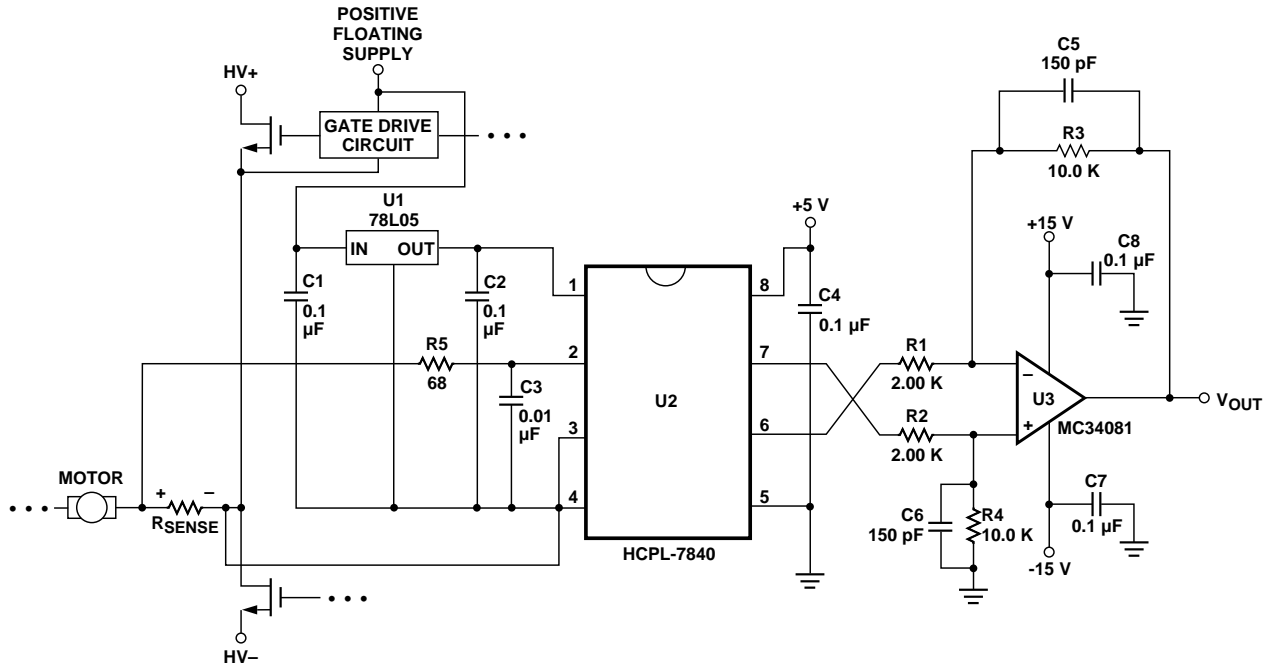

Figure 23. Recommended Application Circuit.
8. CMR (also known as IMR or Isolation Mode Rejection) specifies the minimum rate of rise of a common mode noise signal applied across the isolation boundary at which small output perturbations begin to appear. These output perturbations can occur with both the rising and falling edges of the common mode waveform and may be of either polarity. A CMR failure is defined as a perturbation exceeding 200 mV at the output of the recommended application circuit (Figure 23). See applications section for more information on CMR.
The recommended application circuit is shown in Figure 23. A floating power supply (which in many applications could be the same supply that is used to drive the high-side power transistor) is regulated to 5 V using a simple three-terminal voltage regulator (U1). The voltage from the current sensing resistor, or shunt (R_{sense}), is applied to the input of the HCPL-7840 through an RC anti-aliasing filter (R_5 , C_3). And
As shown in Figure 23, 0.1 μF bypass capacitors (C_2 , C_4) should be located as close as possible to the input and output power supply pins of the HCPL-7840. The bypass capacitors are
The recommended method for connecting the isolation amplifier to the shunt resistor is shown in Figure 23. Pin 2 (V_{IN+}) is connected to the positive terminal of the shunt resistor, while pin 3 (V_{IN-}) is shorted to pin 4 (GND1), with the power-supply return path functioning as the sense line to the negative terminal of the current shunt. This allows a single pair of wires or PC board traces to connect the isolation amplifier circuit to the shunt resistor. In some applications, however, supply currents flowing through the power-supply return path may cause offset or noise problems. In this case, better performance may be obtained by connecting pin 3 to the negative terminal of the shunt resistor separate from the power supply return path. When connected this way, both input pins should be bypassed. Whether two or three wires are used, it is recommended that twisted-pair wire or very close PC board traces be used to connect the current shunt to the isolation amplifier circuit to minimize electromagnetic interference to the sense signal.
The recommended application circuit (Figure 23) includes a post-amplifier circuit that serves three functions: to reference the output signal to the desired level (usually ground), to amplify the signal to appropriate levels, and
To maintain overall circuit bandwidth, the post-amplifier circuit should have a bandwidth at least twice the minimum bandwidth of the isolation amplifier, or about 200 kHz. To obtain a bandwidth of 200 kHz with a gain of 5, the op-amp should have a gain-bandwidth greater than 1 MHz. The post-amplifier circuit includes a pair of capacitors (C5 and C6) that form a single-pole low-pass filter. These capacitors allow the bandwidth of the post-amp to be adjusted independently of the gain and are useful for reducing the output noise from the isolation amplifier (doubling the capacitor values halves the circuit bandwidth). The component values shown in Figure 23 form a differential amplifier with a gain of 5 and a cutoff frequency of approximately 100 kHz and were chosen as a compromise